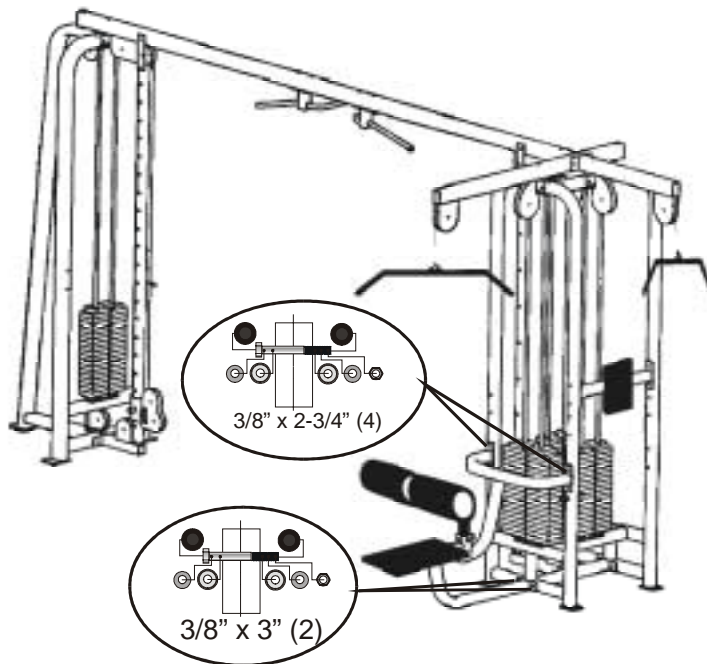

Figure 14. Mount the benches to the frame.
- Mount the seated row and lat bench to the frame.** Using the bolts specified in Figure 14 and a 9/16" socket and combination wrenches, mount the benches as shown in Figures 14 and 15.